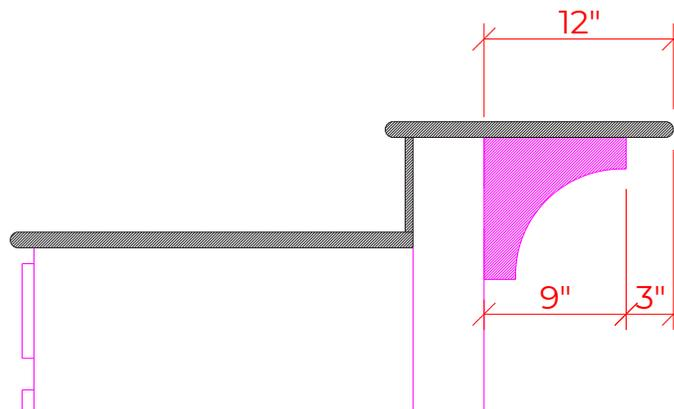

FIGURE 18
- d. Corbels must be installed so that they extend out a minimum of $\frac{3}{4}$ of the overhang distance and must be installed, evenly spaced, at a maximum of every 36". See Figure 18.